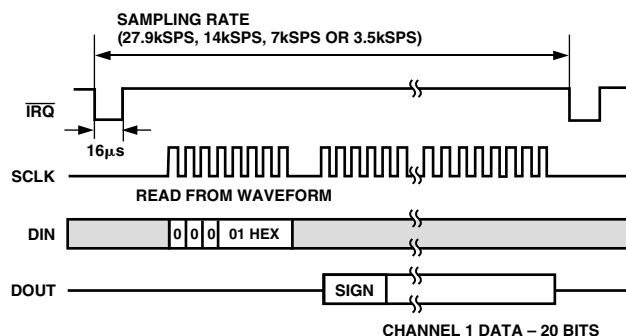
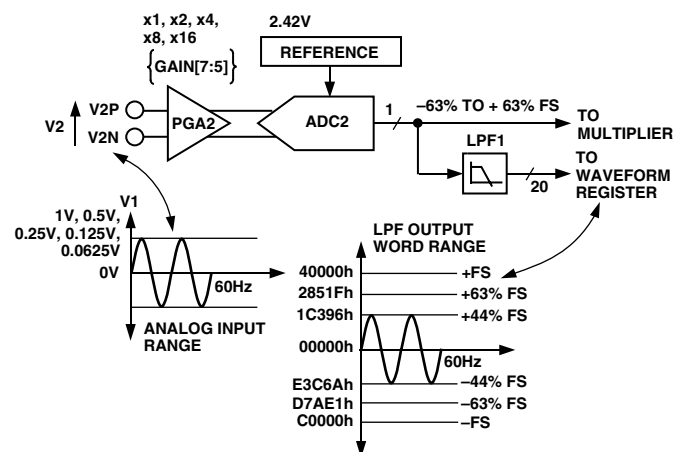

Figure 19. Waveform Sampling Channel 1
Figure 21. ADC and Signal Processing in Channel 2
Figure 21 also shows an analog low-pass filter (RC) on the input to the modulator. This filter is present to prevent aliasing. Aliasing is an artifact of all sampled systems.
When in waveform sample mode, one of four output sample rates may be chosen by using Bits 11 and 12 of the Mode register (WAVSEL1, 0). The output sample rate may be 27.9 kSPS, 14 kSPS, 7 kSPS or 3.5 kSPS—see Mode Register section. The interrupt request output \overline{IRQ} signals a new sample availability by going active low. The timing is shown in Figure 19. The 20-bit waveform samples are transferred from the ADE7756 one byte (8 bits) at a time, with the most significant byte shifted out first. The 20-bit data word is right-justified and sign extended to 24 bits (three bytes)—see Serial Interface section.
Note that LPF1 does not affect the power calculation. The signal processing chain in Channel 2 is illustrated in Figure 21. Unlike Channel 1, Channel 2 has only one analog input range (1 V differential). However, like Channel 1, Channel 2 does have a PGA with gain selections of 1, 2, 4, 8, and 16. For energy measurement, the output of the ADC is passed directly to the multiplier and is not filtered. An HPF is not required to remove any dc offset since it is only required to remove the offset from one channel to eliminate errors due to offsets in the power calculation. When in waveform sample mode, one of four output sample rates can be chosen by using Bits 11 and 12 of the Mode register. The available output sample rates are 27.9 kSPS, 14 kSPS, 7 kSPS or 3.5 kSPS—see Mode Register section. The interrupt request output $\overline{\text{IRQ}}$ signals a new sample availability by going active low. The timing is the same as that for Channel 1 and is shown in Figure 19.
The Active Power signal can be read from the Waveform register by setting `MODE[14:13] = 0,0` and setting the `WSMP` bit (Bit 3) in the Interrupt Enable register to 1. Like the Channel 1 and Channel 2 waveform sampling modes, the waveform date is available at sample rates of 27.9 kSPS, 14 kSPS, 7 kSPS or 3.5 kSPS—see Figure 19.